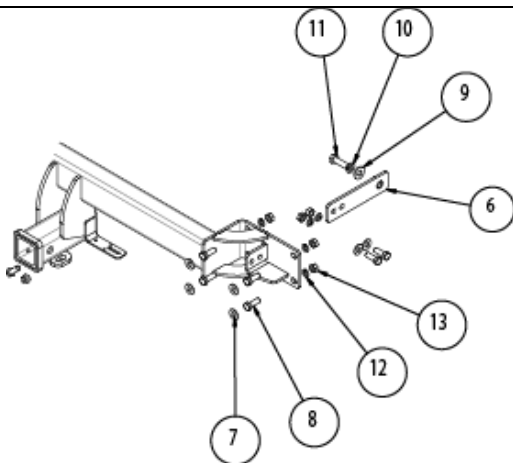

Figure 10 – Fit the towbar to the vehicle.
11. Fit the towbar to the vehicle, and to the side arm, with the relevant fasteners, as shown in Figure 10.